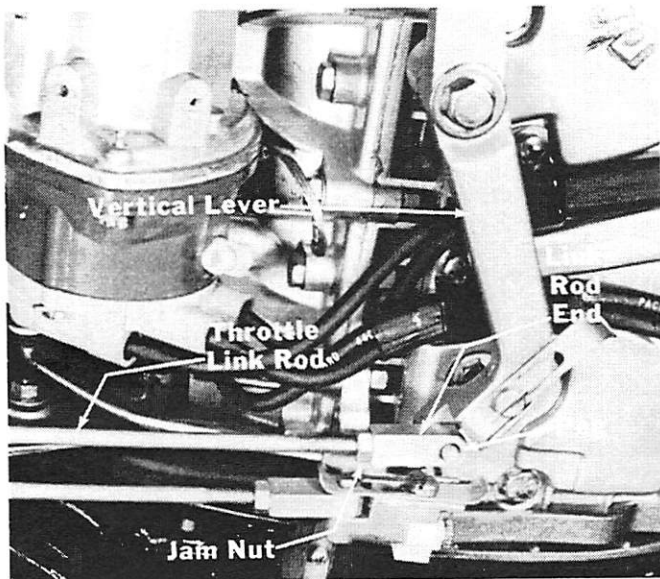

Figure 11. Installing Throttle Link Rod
13. With vertical lever in this position and handle grip positioned as outlined in Step No. 11, adjust throttle link rod end as required to place rod end over peg on vertical lever. (Figure 11)